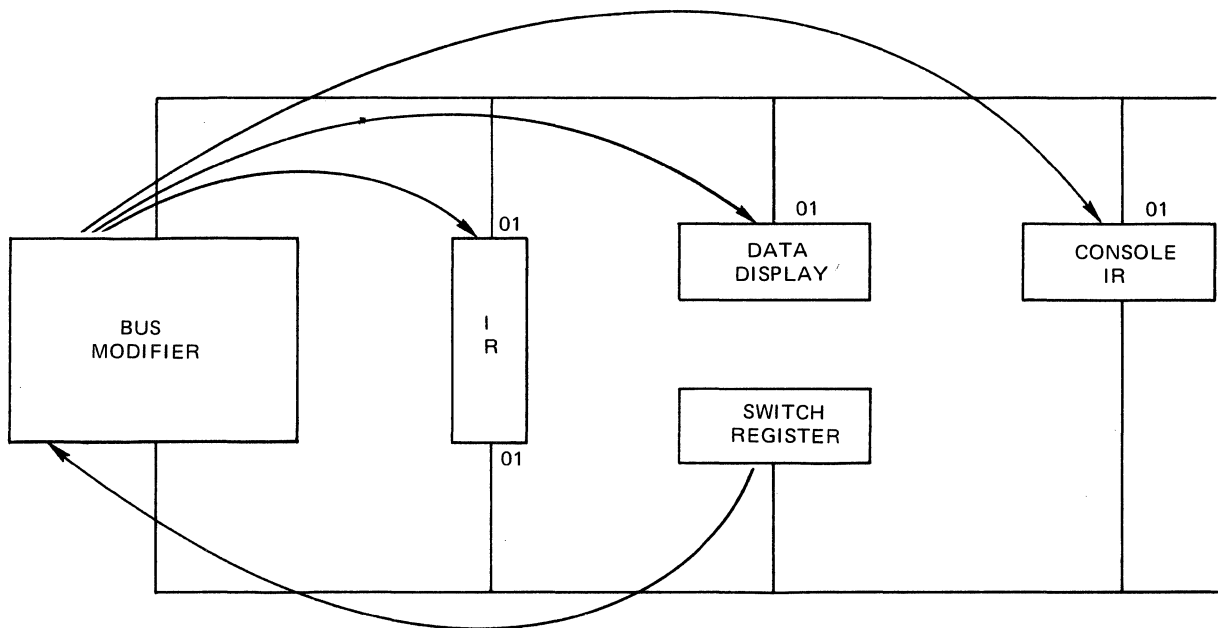

Figure 5-13 Transmit to Device 01
1.	Transmit a bit pattern to the instruction register (IR) (device address 01). Note that the action shown in Figure 5-13 occurs.